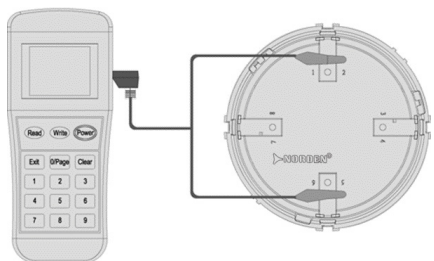
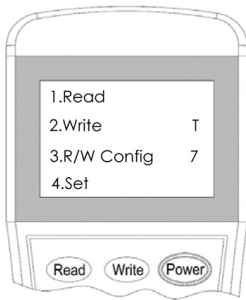

Fig.5 Connection of programming tool and Sounder flasher base
Fig.6 Main menu
1. Connect the programming cable to Z1 and Z2 terminals, as shown in Figure 5. Press “**Power**” to switch on the unit. The main menu after the boot as shown in Figure 6.
The encoding mode of the Sounder flasher base can be set by a programming tool. As shown in figure 11, the option corresponding to the number will be selected when a number is pressed at the interface shown in Figure 6. And then click the button “write”. The word “Success” or “Fail” on the screen means that the success or not of the encoding mode setting, as shown in figure 12 and figure 13.